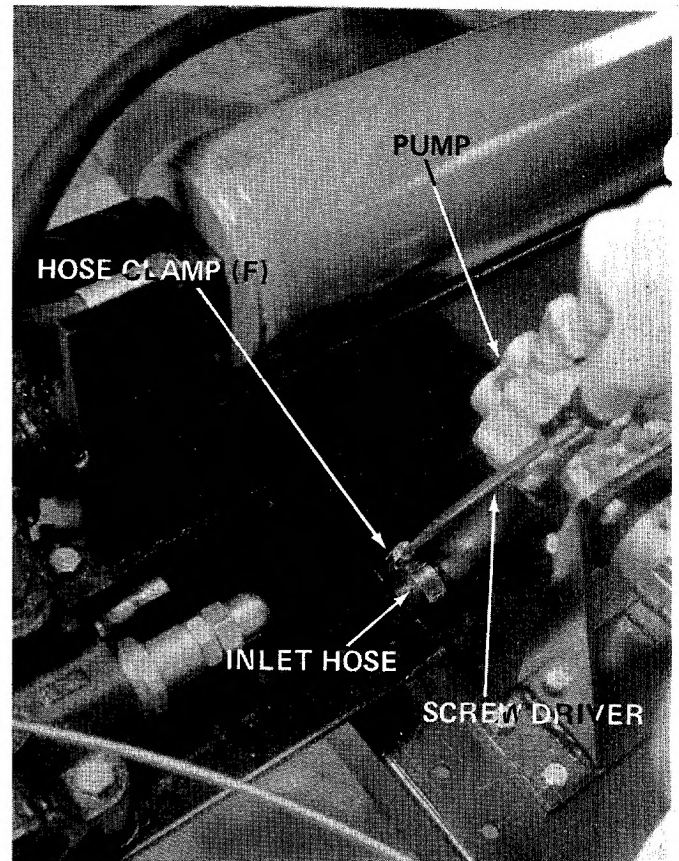

FIGURE 7
7. Secure the inlet hose to the pump with hose clamp (F), provided in hardware pack. A standard screwdriver is required. See figure 7.